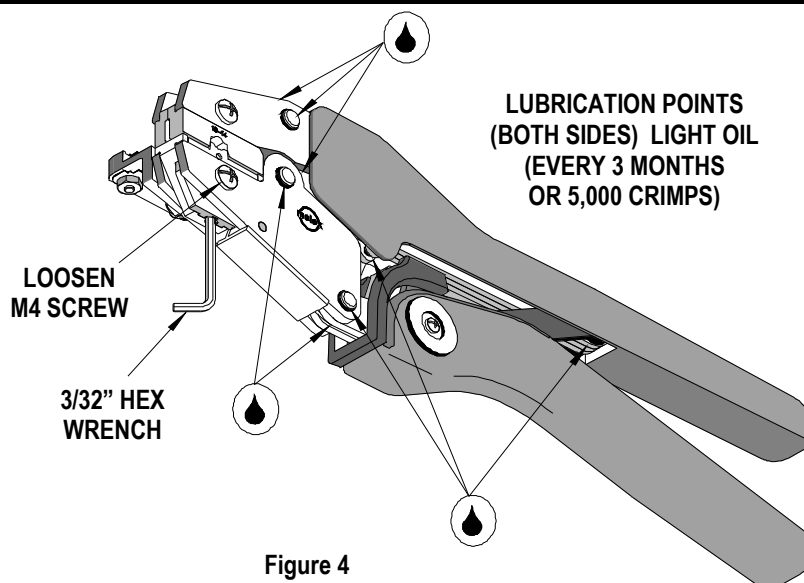

Figure 4
6. If the insulation part of the crimp needs to be adjusted, first loosen the M4 screw on the bottom tool jaw, then insert a 3/32 hex wrench (supplied) into the bottom of the lower die (See Figure 4). A clockwise (CW) rotation decreases insulation crimp while a counter-clockwise (CCW) rotation increases insulation crimp. After adjusting retighten the M4 screw.
3. Make certain all pins; pivot points and bearing surfaces are protected with a thin coat of high quality machine oil. Do not oil excessively. This tool was engineered for durability, but like any fine piece of equipment it needs cleaning and lubrication for a maximum service life of trouble-free crimping. A light oil, such as 30 weight automotive oil used at the oil points shown in Figure 4, every 5,000 crimps or 3 months will significantly enhance the tool life and ensure a stable calibration.